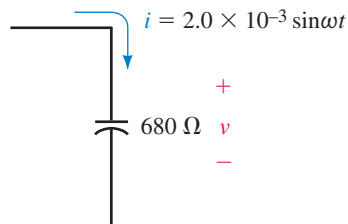

FIGURE 18-80
5. For the component shown in Figure 18-80: